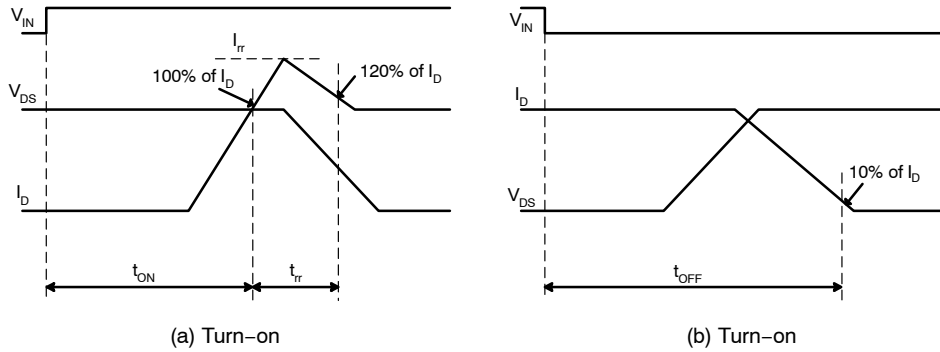
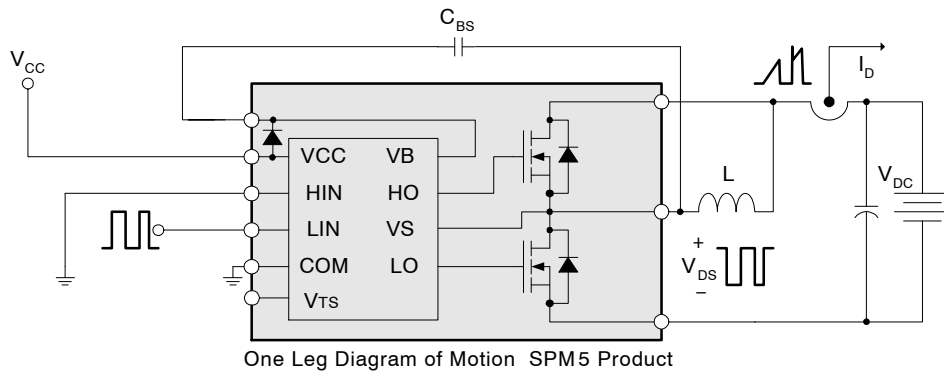

Figure 6. Switching Time Definitions
Figure 7. Switching and RBSOA (Single-pulse) Test Circuit (Low-side)
5. t_{ON} and t_{OFF} include the propagation delay of the internal drive IC. Listed values are measured at the laboratory test condition, and they can be different according to the field applications due to the effect of different printed circuit boards and wirings. Please see Figure 6 for the switching time definition with the switching test circuit of Figure 7.
6. The peak current and voltage of each MOSFET during the switching operation should be included in the Safe Operating Area (SOA). Please see Figure 7 for the RBSOA test circuit that is same as the switching test circuit.